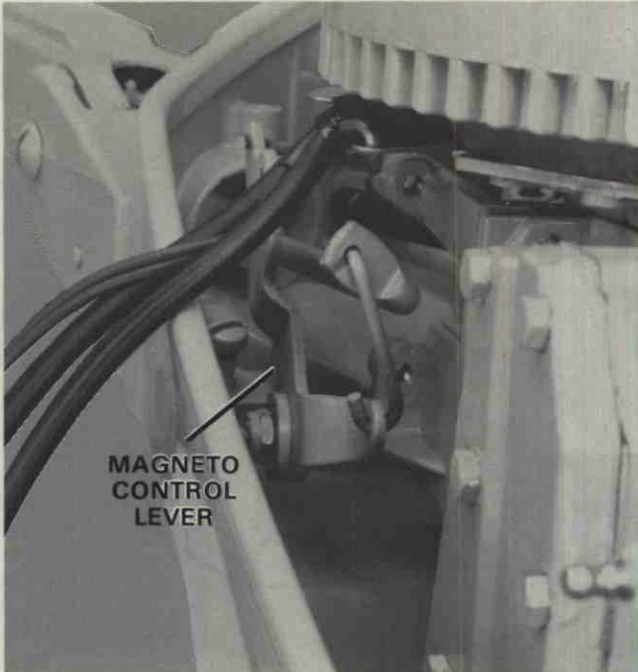

Figure 8. Magneto Control System.
6. Disconnect magneto control lever. Figure 8.